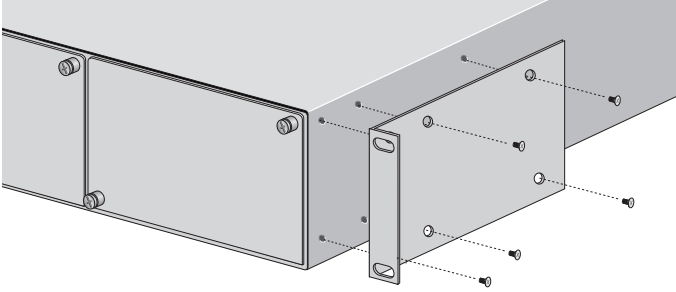

Figure 3. Installing the Rack-mount Brackets
2. Attach a rack-mount bracket to one side of the front of the system using a # 1 Phillips screwdriver and six rack-mount screws provided in the package (see Figure 3).